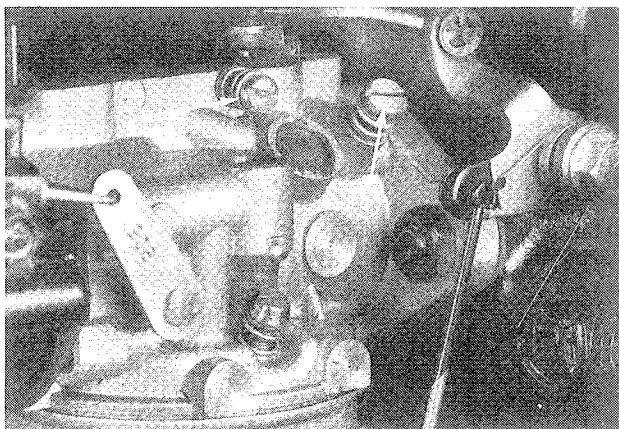

Figure 24
3. Pull firmly on choke cable and tighten cable clamp screw (Fig. 24).
1. Idle Fuel Adjusting Needle (Fig. 24) — Close needle by gently rotating it clockwise.
2. Rotate — open — the needle 1 turn counterclockwise (Fig. 24).